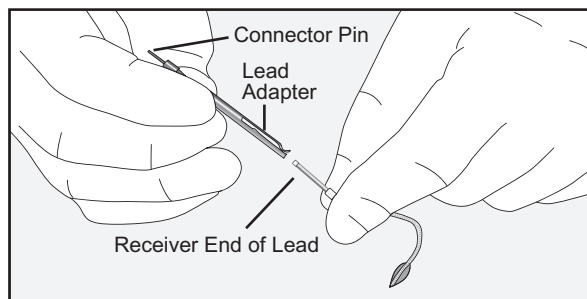

Figure 27: Connect the StimRouter Lead to the Lead Adapter
5. Connect the receiver end of the StimRouter Lead to the Lead Adapter (See Figure 27). Visually confirm that the receiver end of the lead is in contact with the reed connector.